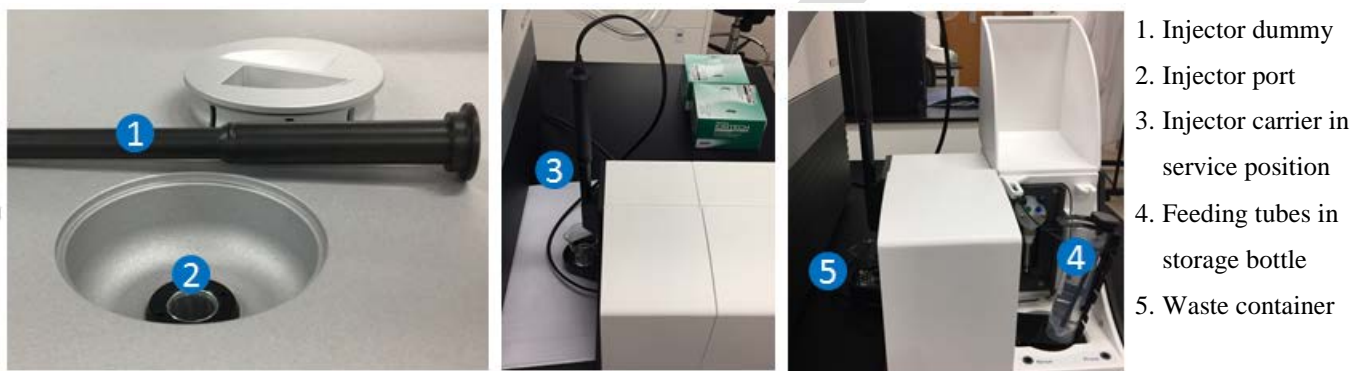

Fig.18 Rinsing and priming
- Make sure that the injector carrier is in the service position for rinsing and priming (fig.18).